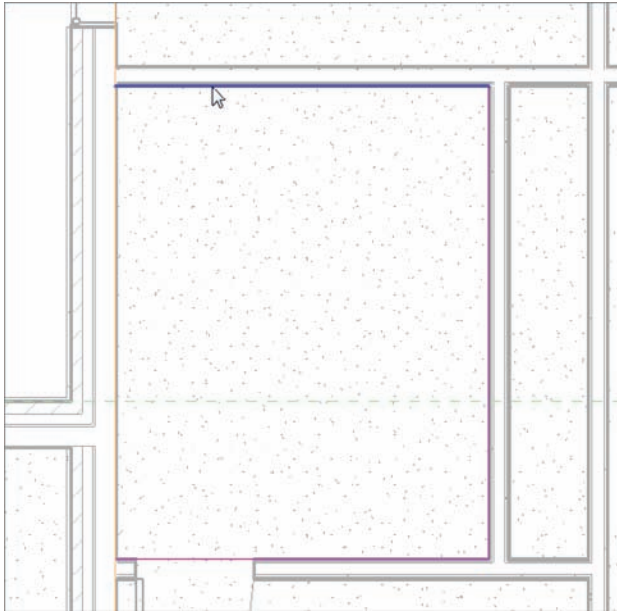

FIGURE 6.41 Placing the three split lines around the perimeter of the lavatory
6. Draw the three lines as shown in Figure 6.41 (you may have to trim and extend the lines).